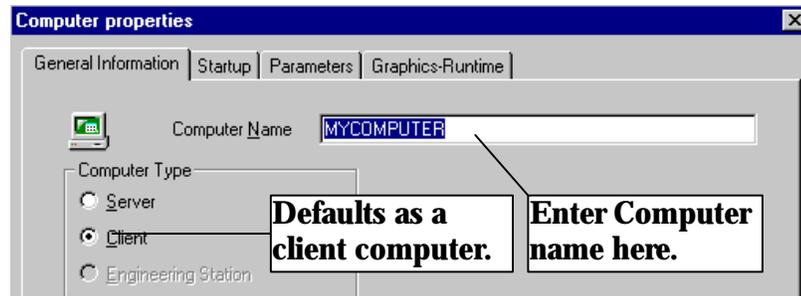

Figure 7.5 WinCC Project "QckStart"; Renaming the Client Computer.
2. A Computer Properties Box will appear. Rename your client computer. See Figure 7.5 for reference.